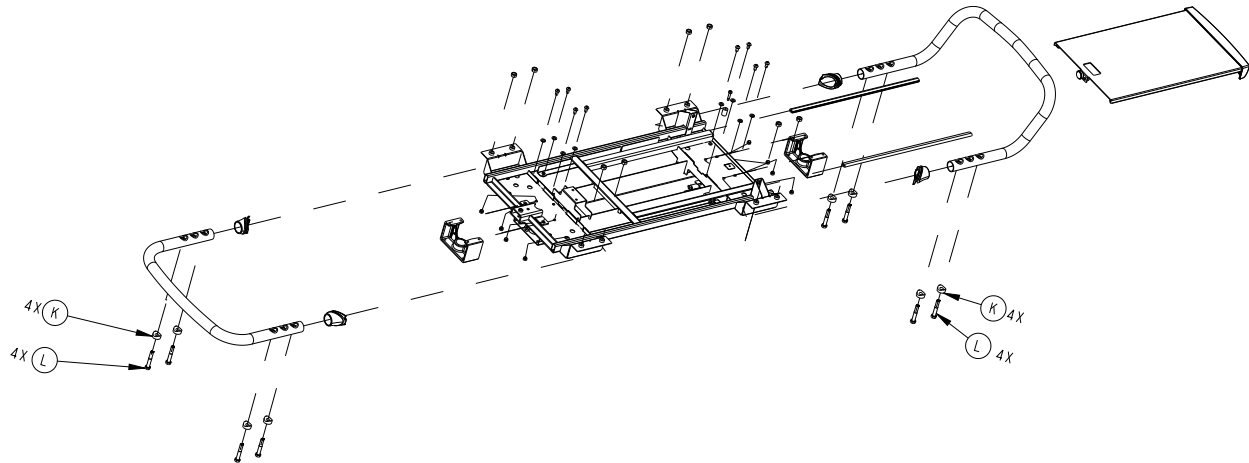

Figure 10 – Push bar
5. Using a 1/2" speed ratchet, remove the four screws (L) and washers (K) that secure the push bar to the cradle bracket (Figure 10). Save the screws and washers.